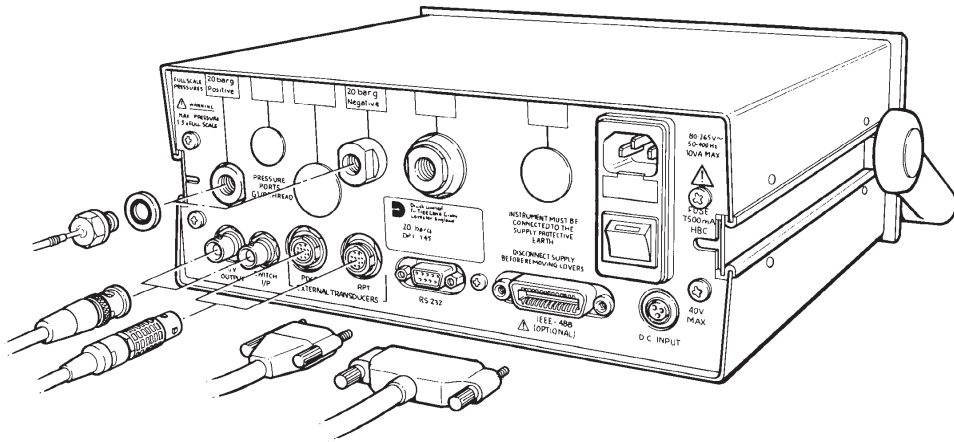

Figure 3.4 - DPI 145 Rear Panel
3.1.3 Panel Mounting (Figure 3.4)
All connections to the instrument are made to the rear panel. Fig 3.4 shows a diagram of a typical rear panel layout, together with the electrical pressure connections.